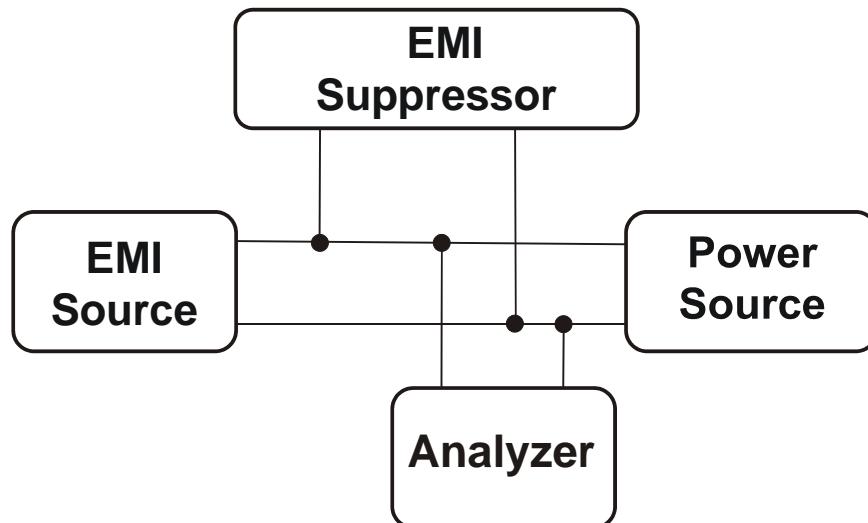

Figure 3-2 EMI Suppressor.
**CAUTION:** Electromagnetic interference (EMI) may affect the operation of the instrument. Do not install the instrument near electrical noise (such as high frequency furnaces, electric welding machines, etc.). Use a separate power line if installing the instrument at such locations. Control the noise from a relay or solenoid valve by the use of an EMI suppressor (RC circuit) across the power wiring close to the noise-generating component (see Figure 3-2).